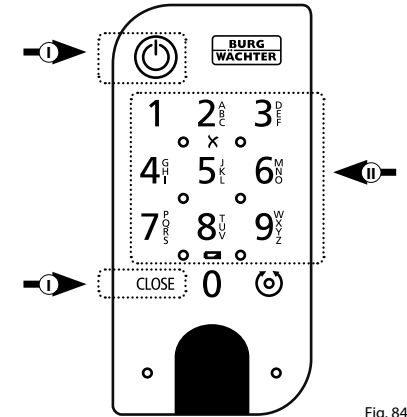

Fig. 84
- 1 Activate the keypad by pressing either the ON key or the CLOSE key (I) (Fig. 84).
- 2 Type in your 6-digit administrator code or user code (II) (Fig. 84).